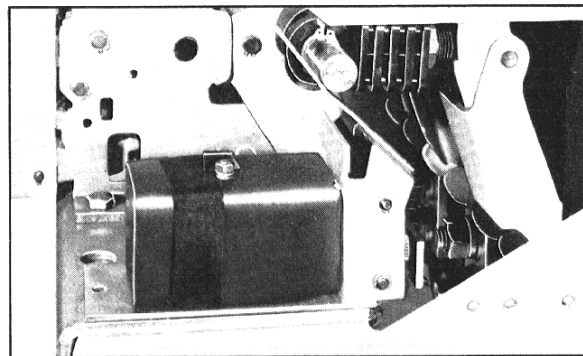

Fig. 6 Positioning of Actuator
2. Using the .312-18 tapped hole secure actuator to breaker platform with .312-18 x .5 sems screw, base of actuator should be parallel with side of platform, Fig. 6.